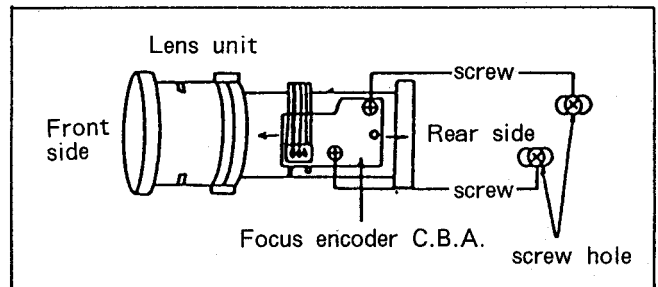

Fig. C11-1
- Loosen 2 screws of Focus encoder C.B.A. and move C.B.A. to center position as shown in Fig.C11-1.